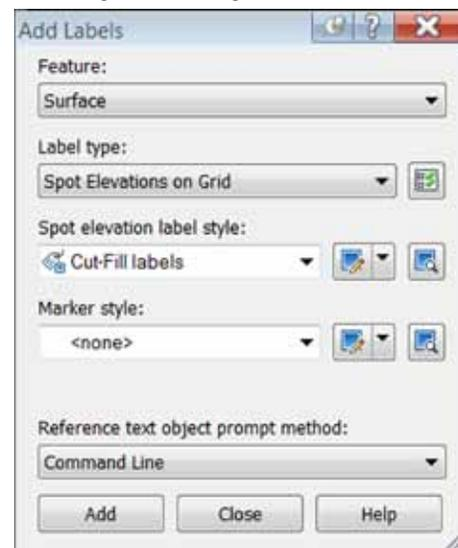

Figure 10: The Add Labels dialog box is a "one-stop-shop" to label most anything in Civil 3D.
Step 1: Select the Annotate tab on the Ribbon and click the Add Labels icon on the far left side to open the Add Labels dialog box (see Figure 10).
Step 2: Set the Feature to “Surface” and the Label Type to “Spot Elevations on Grid.” **Step 3:** Change the Label Style to Cut-Fill Labels and set the Marker Style to <none>. The marker is an optional “tick” that specifies where each measurement is taken. Since our labels will be centered over these points, the marker isn’t really necessary. **Step 4:** Compare your settings to the ones in Figure 10 and then click the Add button. **Step 5:** At the “Select a surface” prompt, click on the Volume Calcs surface. **Step 6:** When defining the grid, use the following settings.